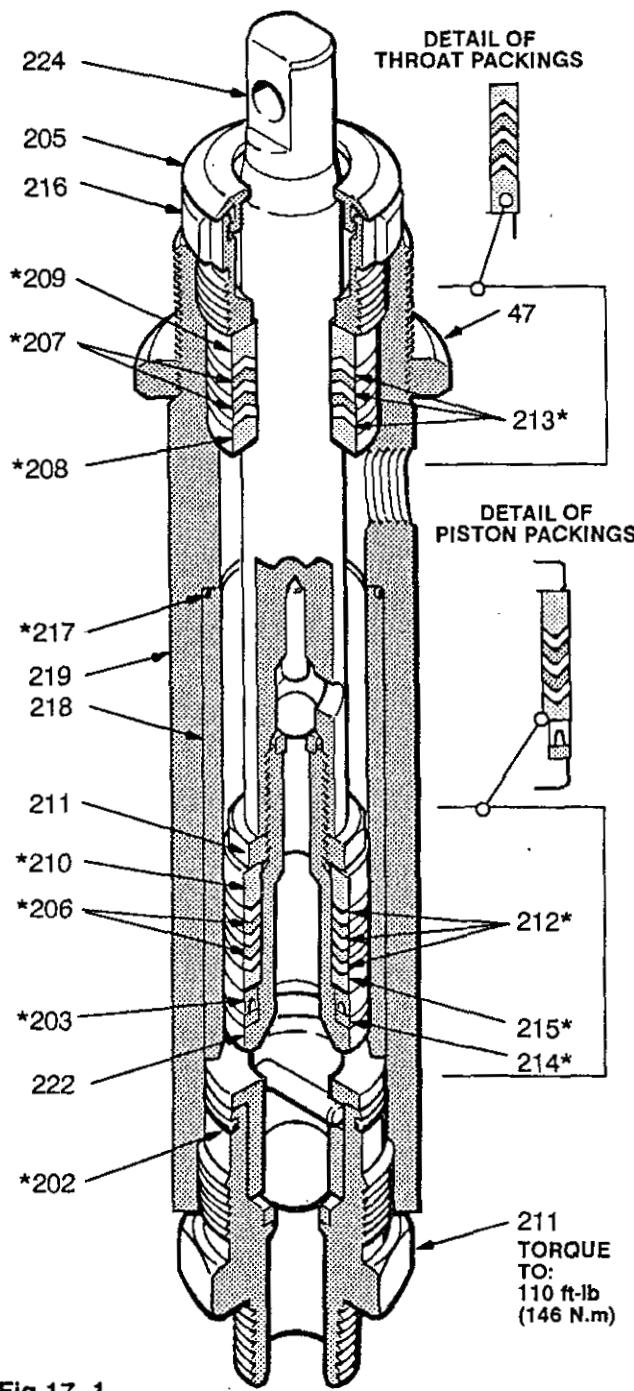
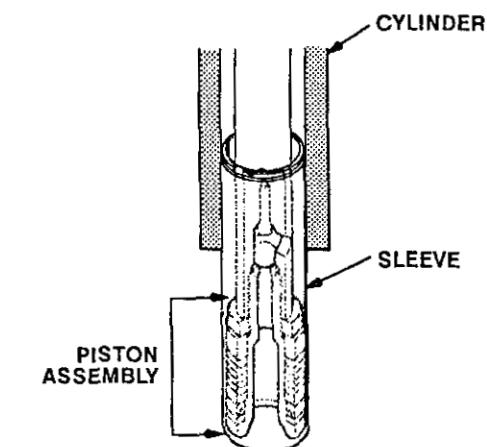

Fig 17-1
Fig 17-4
8. Place a new seal (217*) into the cylinder. See Fig 17-1.
9. Install these parts in the top of the cylinder (219); the male gland (208*), alternate the three plastic packings (213*) and the two leather packings (207*), and then install the female gland (9). See Fig 17-1.
10. Loosely install the packing nut (216) and plug (205). See Fig 17-1.
12. Slide the sleeve/piston rod assembly **into the bottom of the cylinder**. See Fig 17-4.
13. Screw down the cylinder locknut (47) until it is finger tight at the bottom of the external cylinder threads.
14. Place the intake valve (223) in a vise. Install a new o-ring (202*). Screw the pump cylinder into the intake valve. Torque to 110 ft-lb (146 N.m). See Fig 17-1.